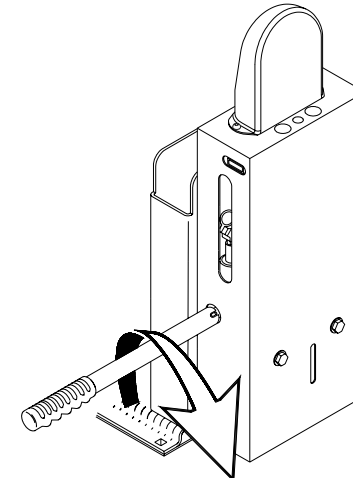

FIGURE 2-13: CLOSE RELEASE VALVE
- d. Refer to **Figure 2-13**. When platform reaches level of interior floor turn valve clockwise to close; do not over-tighten valve. Do not lower platform below vehicle floor level. The rear edge of bridgeplate must rest flat on vehicle floor.
- b. Hold valve open until platform settles at ground level. Refer to **Figure 2-13**. Turn handle clockwise to close valve; do not over-tighten valve.
- a. Refer to **Figure 2-13**. Verify that pump release valve is closed; do not over-tighten valve.